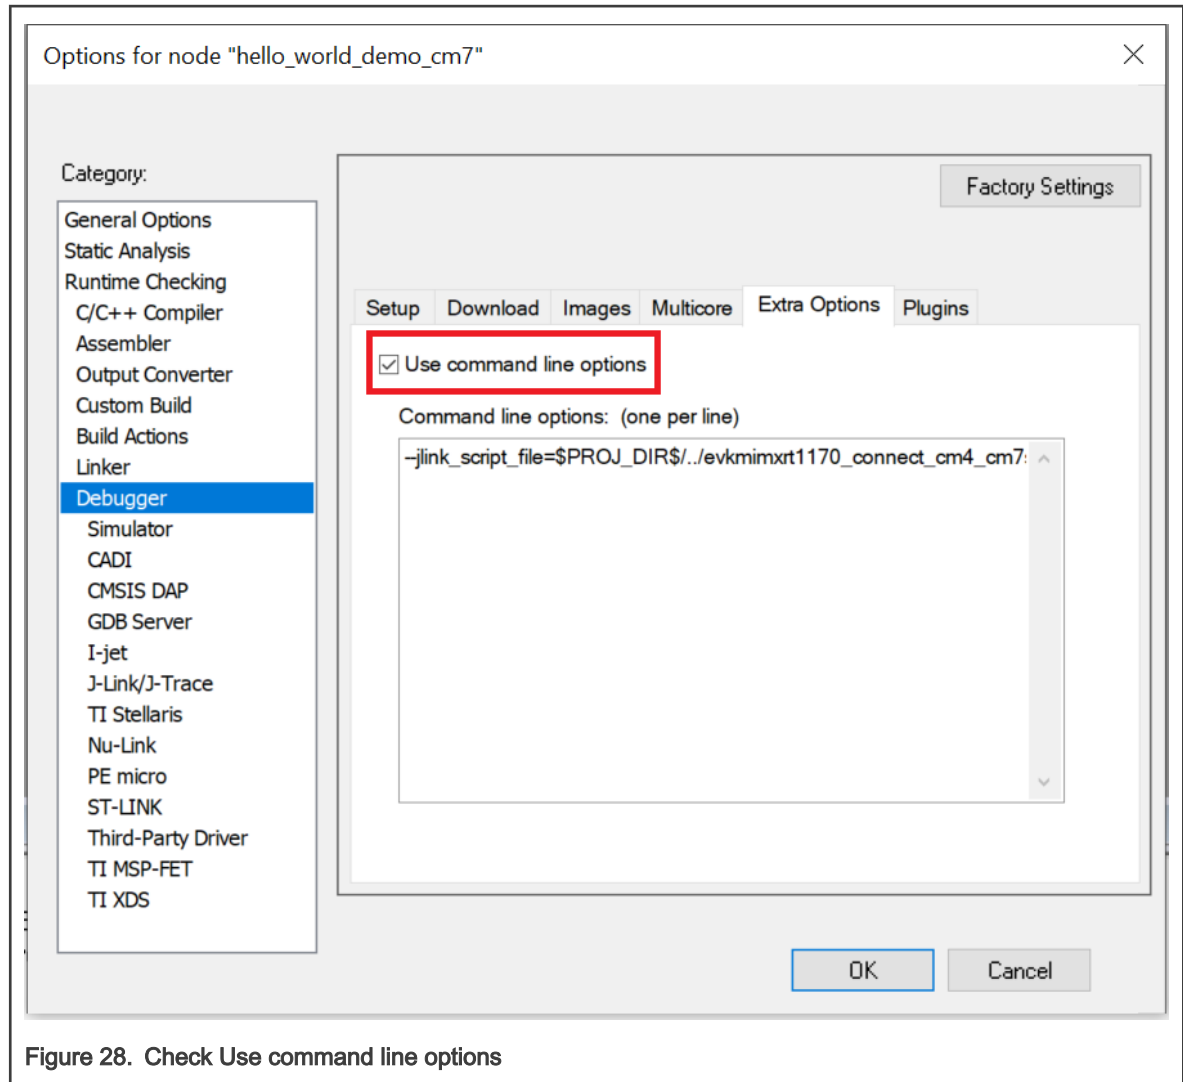

Figure 28. Check Use command line options
- When downloading the `cm7` project, check **Use command line options**, as shown in Figure 28.